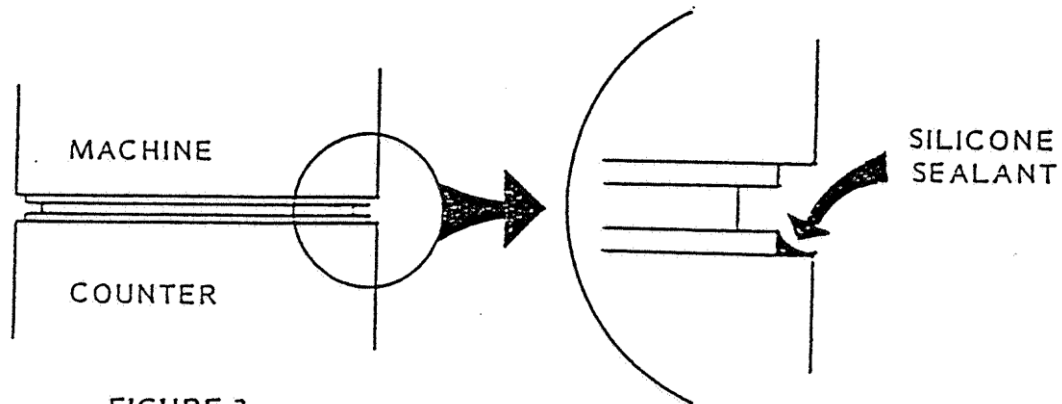

FIGURE 3
2. Clean the lower rim, or bottom flange of the machine base (Ref. Fig. 3).
5. Remove any excess sealant by slowly running a flat edged tool (spackling tool) around the flange of the base frame. This will create aseamless joint between the frame and the counter top (Ref. Fig. 3).